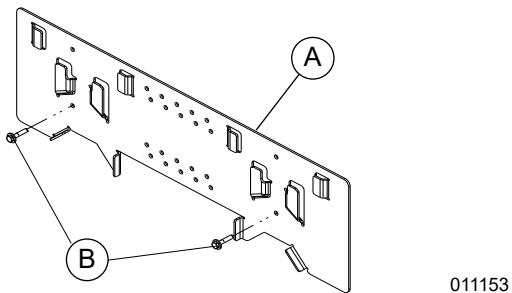

Figure 4-3. Install Foot Bracket
2. See **Figure 4-3**. Locate structural members to mount foot bracket (A). If structural members are greater than 16 in (40.64 cm) apart, install cross brace to ensure mounting to a solid structure.
3. See **Figure 4-3**. Install foot bracket (A) using lower holes with fasteners and washers (B) making sure bracket remains plumb and level.